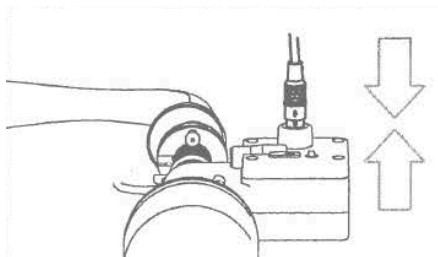

FIGURE 3
3. When installing the soap bottle, ensure the tube is properly positioned inside the container. You should hear a click when the bottle is securely connected. **See Figure 3**